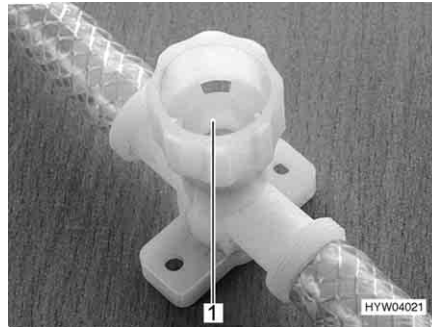

Fig. 158 Drain cock for hot water source
- Close all drain cocks. To do this, close the caps (Fig. 158,1) by turning them in a clockwise direction.
- Open all drain cocks of the hot water source. To do this turn the caps (Fig. 158,1) in an anticlockwise direction.